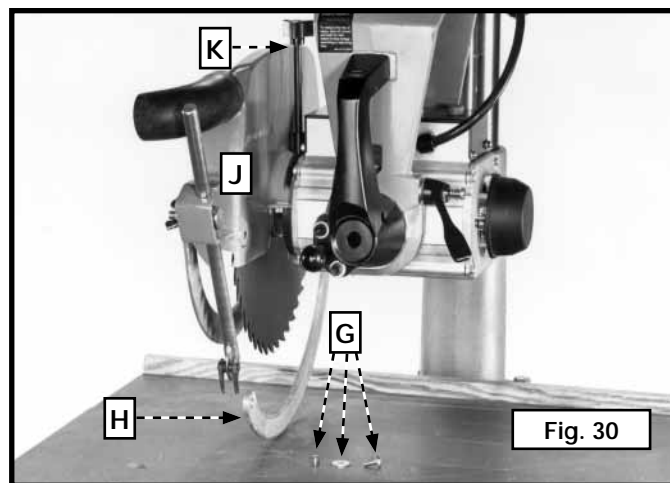

Fig. 30
4. Remove the screw, flat washer and spacer (G) Fig. 30 that fasten the front inside leaf guard (H) to the front end of blade guard (J). Attach the blade guard (J) to the motor assembly with a locking rod and washer (K).
5. Re-attach the leaf guard (H) Fig. 30 to the blade guard (J) using the screw, flat washer and spacer (G).